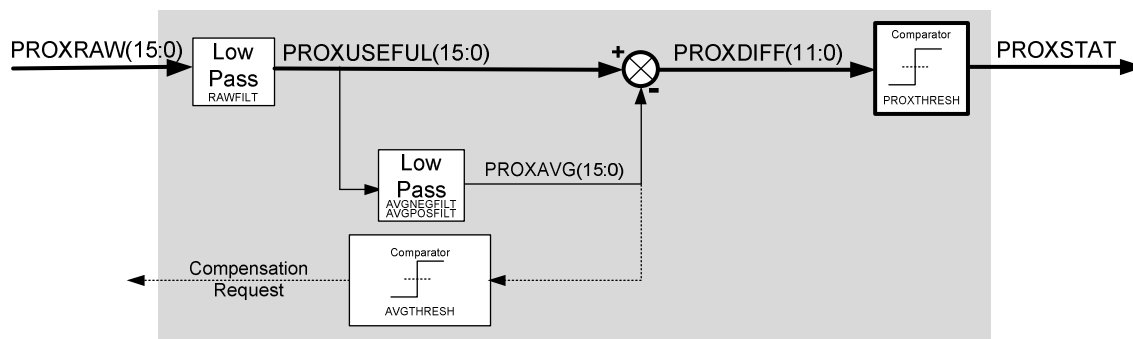

Figure 12: Digital Processing Block Diagram
The format of the I2C write is given in Figure 12. After the start condition [S], the slave address (SA) is sent, followed by an eighth bit ('0') indicating a Write. The SX9500 then Acknowledges [A] that it is being addressed, and the Master sends an 8 bit Data Byte consisting of the SX9500 Register Address (RA). The Slave Acknowledges [A] and the master sends the appropriate 8 bit Data Byte (WD0). Again the Slave Acknowledges [A]. In case the master needs to write more data, a succeeding 8 bit Data Byte will follow (WD1), acknowledged by the slave [A]. This sequence will be repeated until the master terminates the transfer with the Stop condition [P].